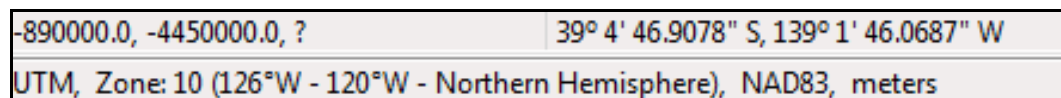

Figure 13 Latitude, longitude and projection displayed in status bars
9. Move the mouse around and notice that the mouse tracking now shows the latitude and longitude as well as the UTM coordinates in meters. Also notice the current display projection is shown in the status bar (Figure 13).